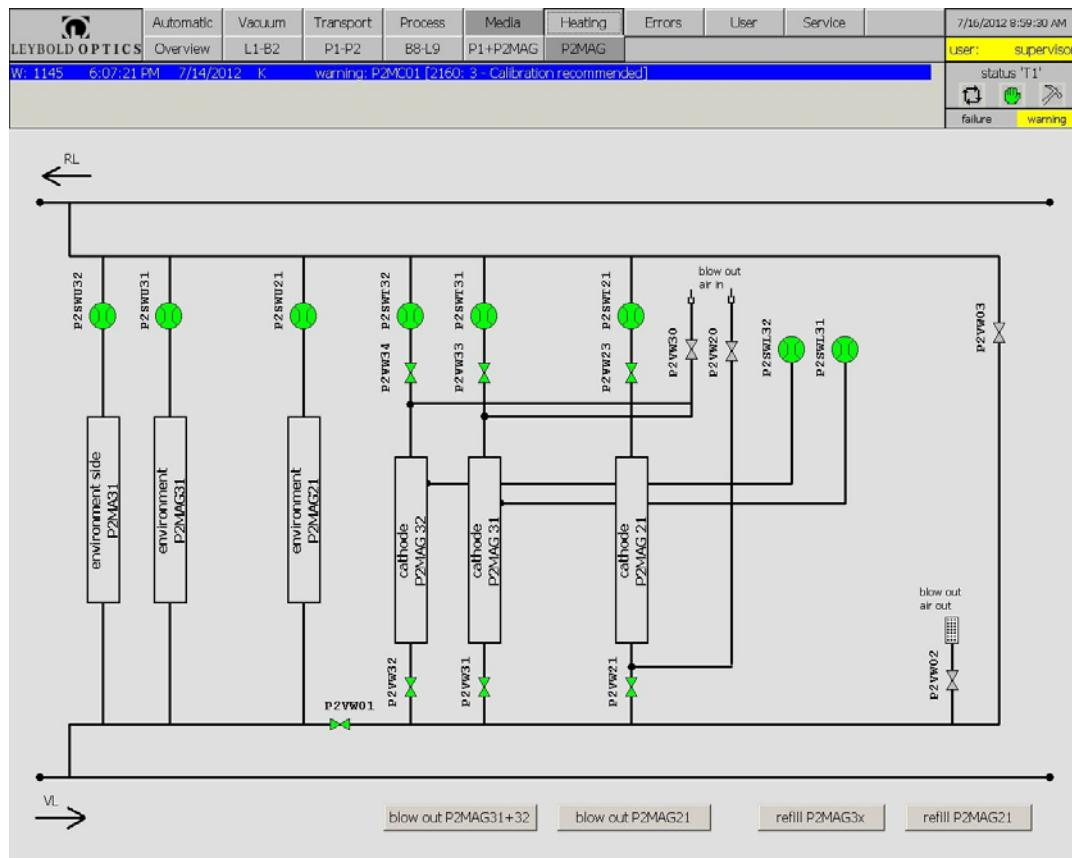

Fig. 7-5
- 1 GUI: Select the «Media > PXMAG» menu of the corresponding magnetron cooling water circuit, see Fig. 7-5, Fig. 199.